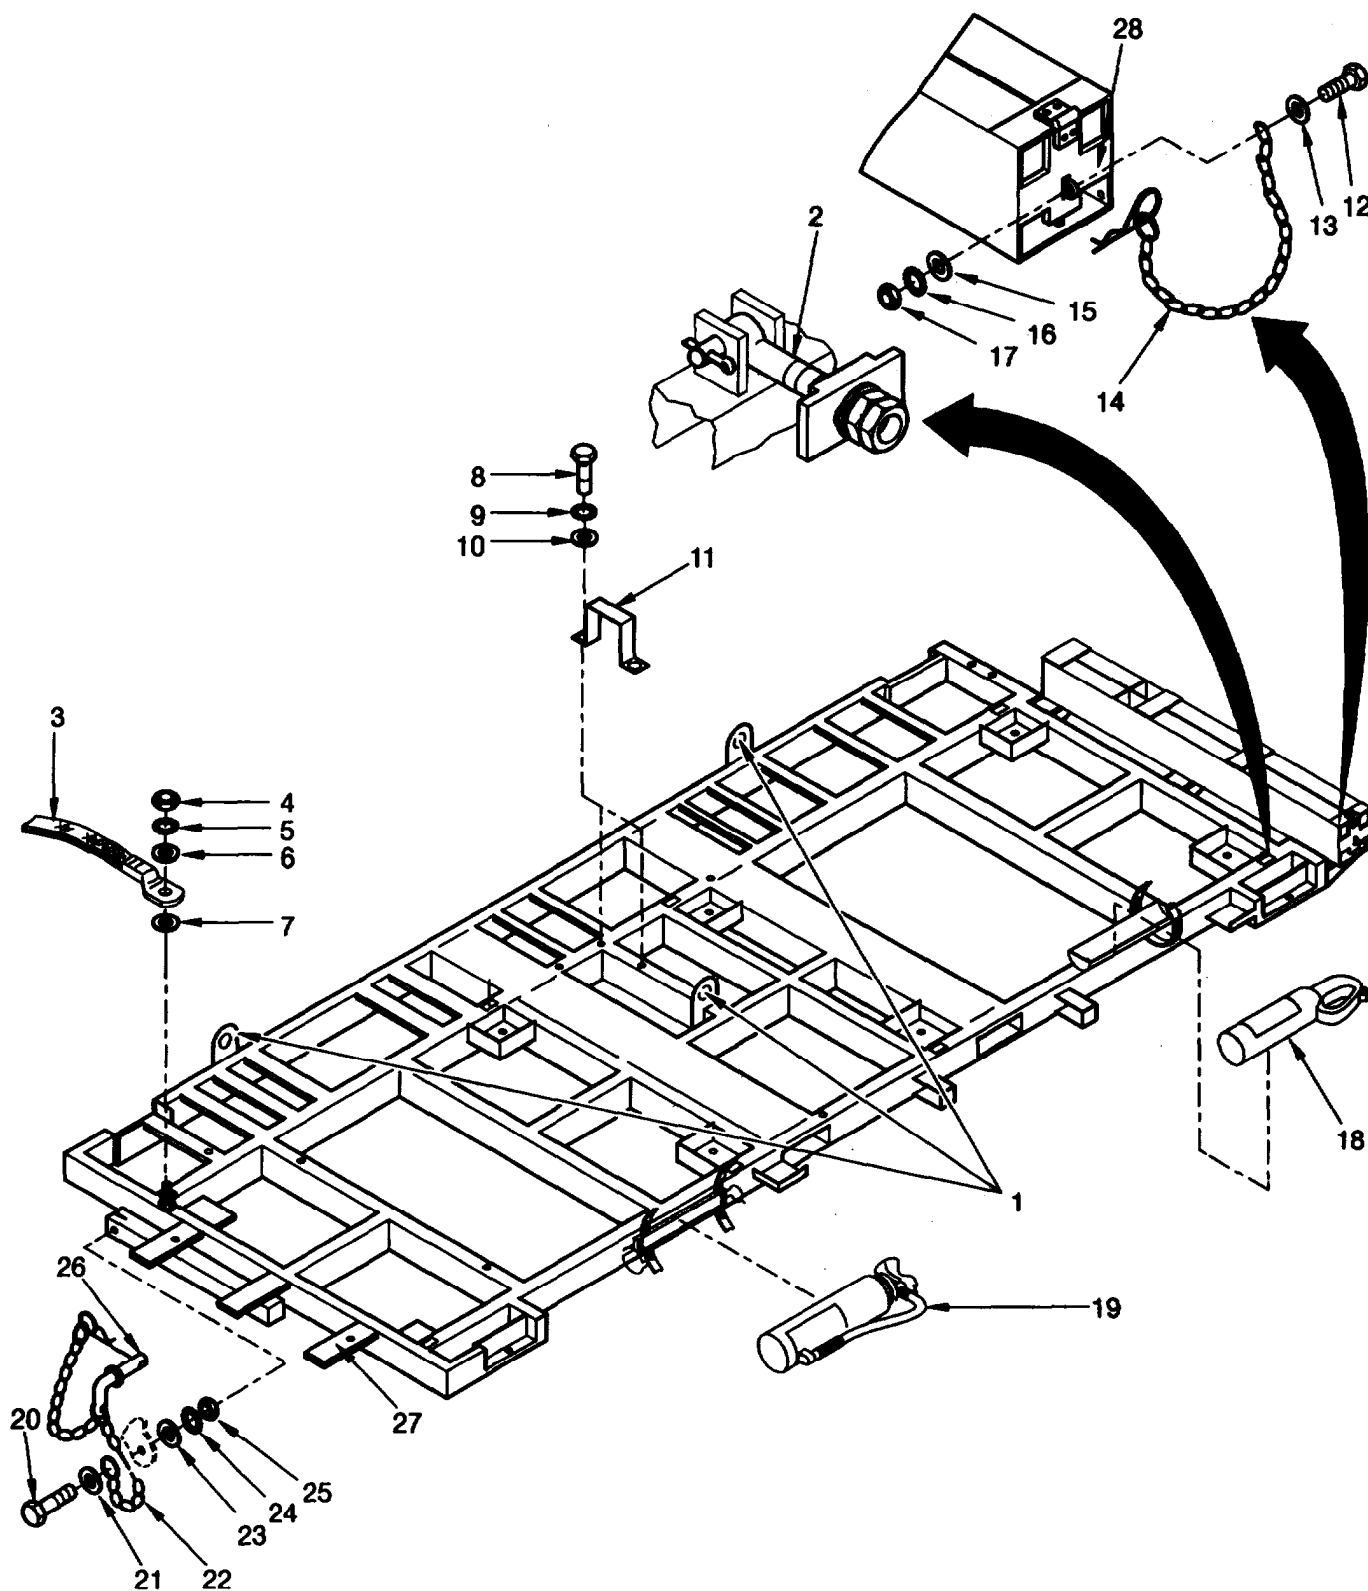

Figure 4-27 Pallet Frame, Mounted Parts.
- a. Check condition of the pallet frame. There must be no visible damage to the frame. Check that all mounted parts in figure 4-27 are present and firmly attached.
- c. Check that the eight bolt fasteners (2) for the Generator Set 150 kW are in good condition and move easily.
- d. Check operation of hinged fastener (28) and good condition of parts (12 to 17).
- e. Check that lifting lugs (1) are in good condition.
- f. Check that rubber plates (27) are firmly attached. The plates are glued in position.